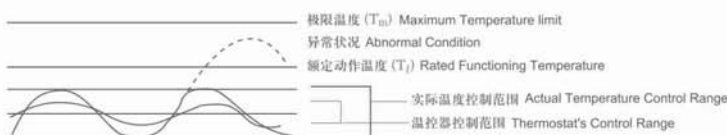

图 1 Fig.1
- 应用产品必须经过测试以确定当出现任何异常状况时都不会使温度保险丝周围温度超过极限温度（Tm），这种状况可能出现在一种称为“余热过冲”的状况下。例如：一个热风机在进风口或出风口堵塞时引起温度升高到 TF，这时温度保险丝断开电路，但是，一个不正确的设计可能会引起装置提前开路 and 过度的余热过冲可能会损伤保险丝，应用产品须经测试以确定在正常的温度波动状态（如控温器的动作与复位引起的加热器温度波动）下，温度保险丝周围温度在控温器的通断循环中不会达到 Tm。（见图 1）
- The end product should be tested to ensure that potentially abnormal conditions do not exposed the thermal cutoff to the temperature exceeding its Tm. This condition may occur in an "overshoot" situation. For example, an air heater may be subjected to a blocked inlet or outlet condition on attaining its Rated functioning temperature,the thermal cutoff will open .However, an incorrect design may cause the premature opening of the device and excess overshoot may cause shooting or damage to the thermal cutoff .The end product should be tested to ensure that under normal cycling condition (such as cycling of a thermostat),the thermal cutoff never reaches its Tf during the "on" or "off" cycle.(see Fig.1)